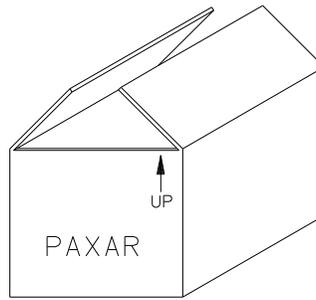

Figure 2 - Shipping Carton.
Open the printer from the top of the box (See *Figure 2*). Do not cut deep into the carton, as there are items located just under the top. Remove the items located on the top insert. Remove the top insert. Lift the printer onto the table with the two banding straps. Remove the two straps and the plastic from the printer. Inspect the printer for shipping damage. If damage is discovered, contact AVERY DENNISON for further instructions - in the U.S.A. at (570) 888-6641. In other countries please contact your local AVERY DENNISON supplier. Once you are satisfied that there was no obvious shipping damage to the printer, the printer can now be lifted to its intended location.